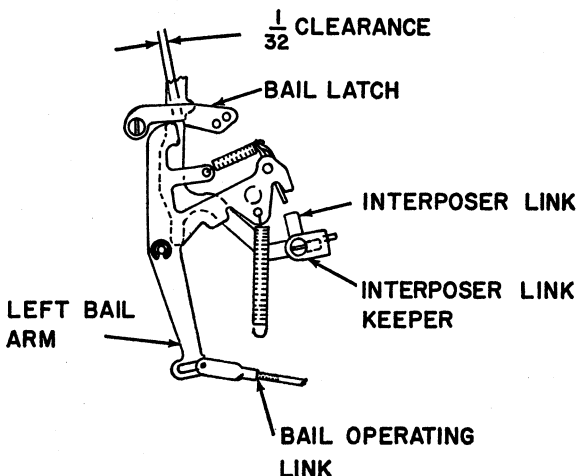

Figure 4. Bail Operating Link Adjustment
5. BAIL OPERATING LINK. Adjust the bail operating link so that, when the cam reaches its high point, the restoring bail will have been pulled $\frac{1}{32}$ " past its latching point (Figure 4).